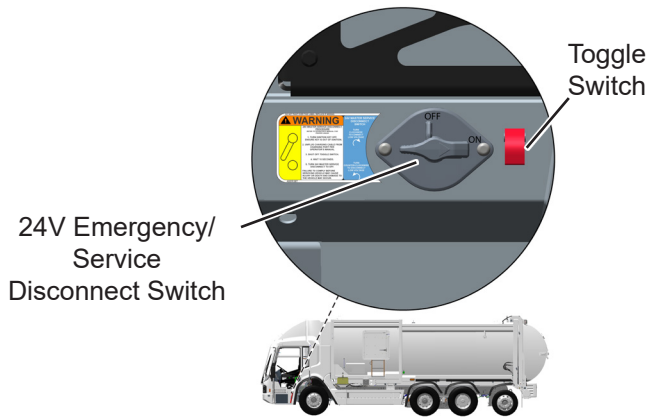

Figure 1: Shows ZFL for illustrative purposes only.
4. Shut off toggle switch next to the 24V Emergency/Service Disconnect Switch (Figure 1).
6. Turn 24V Emergency/Service Disconnect Switch to OFF (Figure 1).